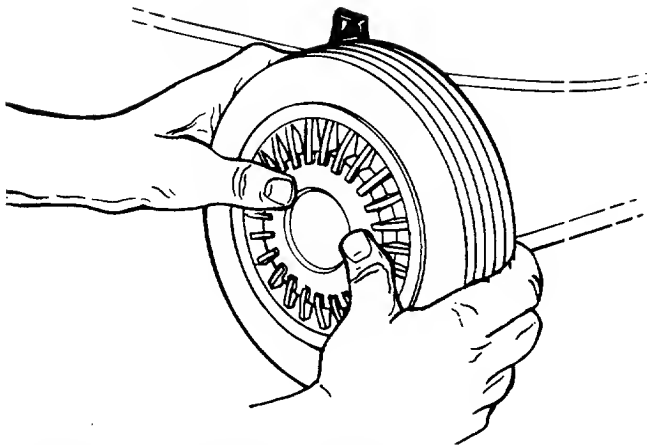

FIGURE 7.—Optional Hub Caps
2. If your mower is equipped with 2" wide tires, place hub caps in position against the inner hub of the wheel. Press firmly around the center portion of hub cap in a circular motion, similar to installing a lid on a round, plastic container. See figure 7. The hub caps are flexible and will snap over the 3½" diameter wheel hubs.